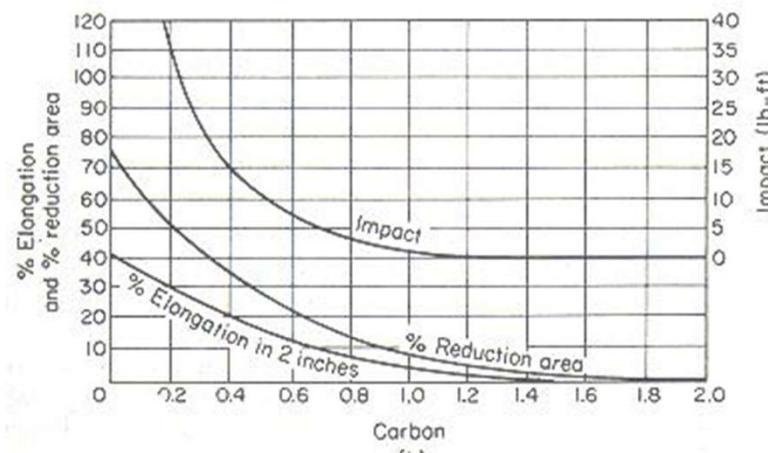

Figure 2. Effect of carbon on the impact resistance and ductility of steels.
- Figure 2. Alpha iron (B.C.C) unit cell
- The elongation and the reduction in area represent how ductile or brittle a material is. Figure 2 indicates the effect of carbon on the ductility and impact resistance (toughness) of steels. The elongation and the reduction in area drop sharply with increase in carbon content, going almost to zero at about 1.5 % carbon. This indicates that the carbon content of 1.5 % or more will cause high brittleness. The impact resistance also decreases very sharply up to about 0.83 % carbon and then levels out.